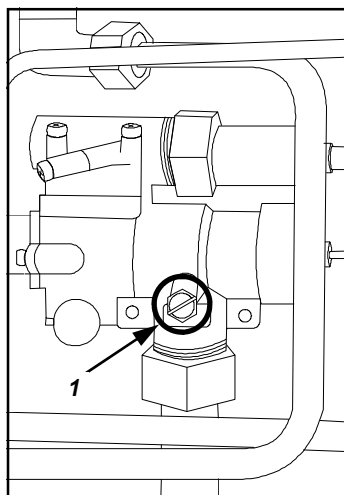

FIG.7 (CONTRÔLE DE LA PRESSION D'ALIMENTATION)
- 2) ENLEVER LA VIS DE MAINTIEN DU CLAPET DE SÛRETÉ (ROBINET GÉNÉRAL); (FIG.7-RÉF.1)
- 7) REVISSER LA VIS DE LA PRISE DE PRESSION D'ALIMENTATION (FIG.7-RÉF.1);